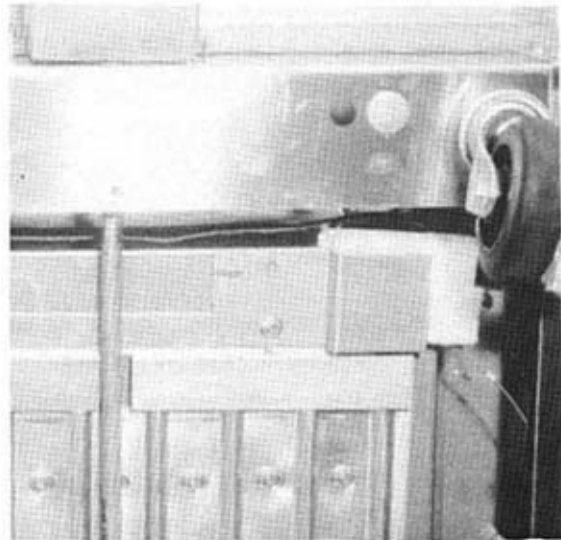
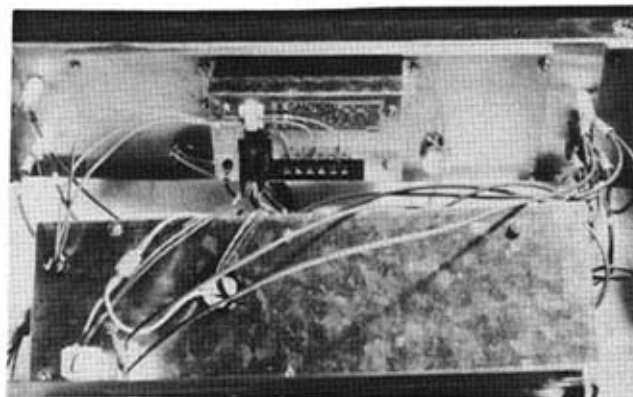

FIG. 7
FIG. 8
2. Remove the six (6) screws securing top to side panels and remove top. Save screws for reuse.
4. Remove the six (6) hex head screws and washers securing galvanized panel to bottom of cabinet and save for reuse.
5. Remove the hex nut securing insulation and bracket to tank bottom. Save nut, bracket and insulation piece for reuse (See Figure 7).
7. Remove the two (2) screws securing power board bracket to escutcheon.
8. Carefully lay power board bracket back from escutcheon (See Figure 8).